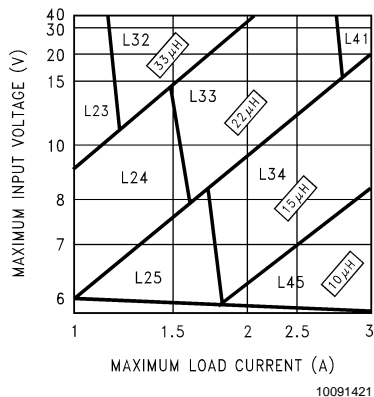
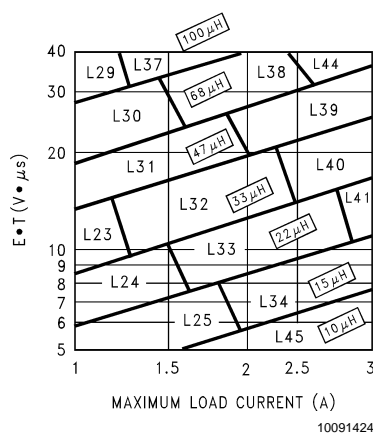

FIGURE 3. LM2676-3.3
FIGURE 6. LM2676-ADJ
**Step 3:** Determine the inductor required by using one of the four nomographs, *Figure 3* through *Figure 6*. Table 1 provides a specific manufacturer and part number for the inductor.
**Step 5:** Determine an input capacitor from Table 4 for fixed output voltage applications. Use Table 2 to find the specific capacitor type. For adjustable output circuits select a capacitor from Table 2 with a sufficient working voltage (WV) rating greater than  $V_{in\ max}$ , and an rms current rating greater than one-half the maximum load current (2 or more capacitors in parallel may be required).
**Step 3:** Use the nomograph for the 3.3V device, *Figure 3*. The intersection of the 16V horizontal line ( $V_{in\ max}$ ) and the 2.5A vertical line ( $I_{load\ max}$ ) indicates that L33, a 22 $\mu$ H inductor, is required.
**Step 3:** To use the nomograph for the adjustable device, *Figure 6*, requires a calculation of the inductor Volt•microsecond constant ( $E \cdot T$  expressed in V• $\mu$ S) from the following formula:
Using *Figure 6*, the intersection of  $27V \cdot \mu s$  horizontally and the 2A vertical line ( $I_{load} \max$ ) indicates that L38, a  $68\mu H$  inductor, should be used.
Figure 6, selects an inductance of  $22\mu H$  or less, Table 6 does not provide an output capacitor solution. With these conditions the number of output capacitors required for stable operation becomes impractical. It is recommended to use either a  $33\mu H$  or  $47\mu H$  inductor and the output capacitors from Table 6.